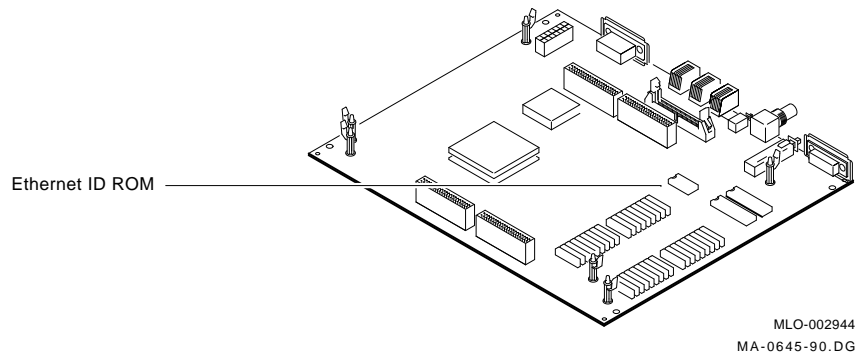

Figure 1-9 Ethernet ID ROM Location
4. Exchange the Ethernet ID ROM from the system module that you removed with the Ethernet ID ROM on the new system module. Verify the correct position of pin 1 (notched position) on the ROM (Figure 1-9).